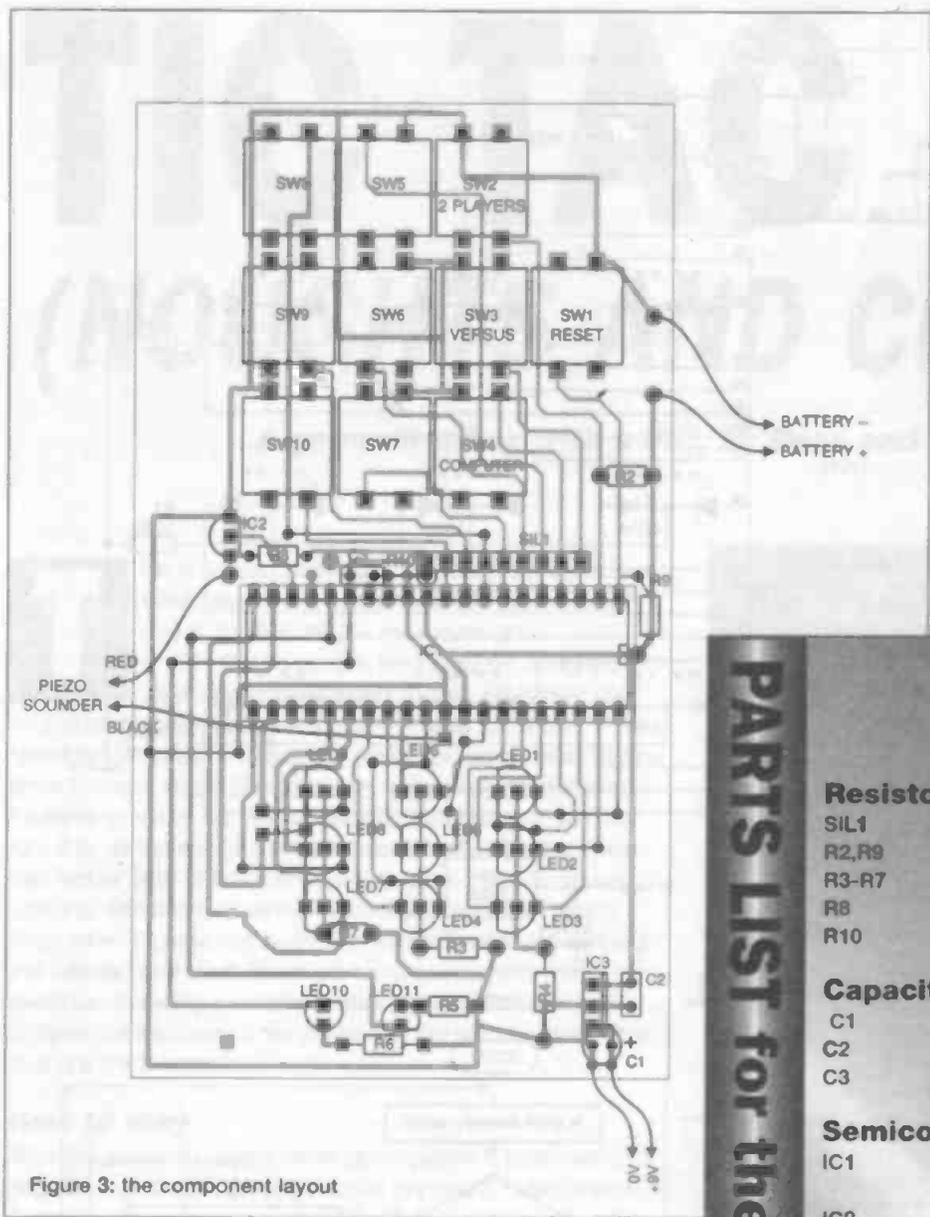

Figure 3: the component layout
To take one very simple example as an illustration, we often need to find suitable resistor values for a potential divider. For instance, there is a need for this when we are trying to bias a transistor. You can, of course just make this a one-off calculation, type in the variables according to the formulae and obtain the results. But MExpress goes one better (actually two better, as we shall see later). We can set up the calculation plus a few frills in a special .X file. Then all we do is type the name of the .X file at the prompt and the routine is automatically called into action. **Figure 3** shows the notepad with the routine entered. The input statements ask the user to key in the three values needed for the calculation. Then the routine calculates 'oures', the value of the output resistor, and also the current through the network. After printing a heading, the calculated values are displayed. The contents of Notepad are then saved in a file called potdiv.X.
**Figure 3:** In MExpress, users can type often-used routines into Notepad and save them for instant use later. This is 'potdiv', a routine useful for calculating values for transistor biasing resistors